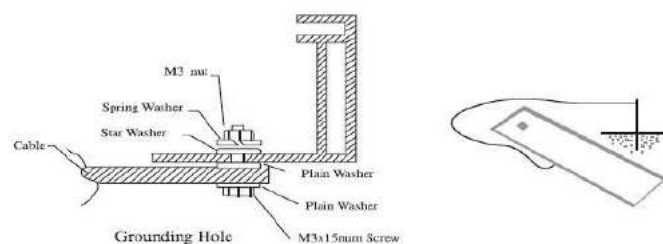

Figure 8: The graph of Grounding
e) All module frames and mounting racks must be properly grounded in accordance with local and national electrical codes. Attach the equipment grounding conductor to the module frame using the hole and hardware provided. Not that a stainless steel star washer is used between the ground wire and module frame (see Figure 8 below). This washer is used to avoid corrosion due to dissimilar metals. Tighten the screw securely.